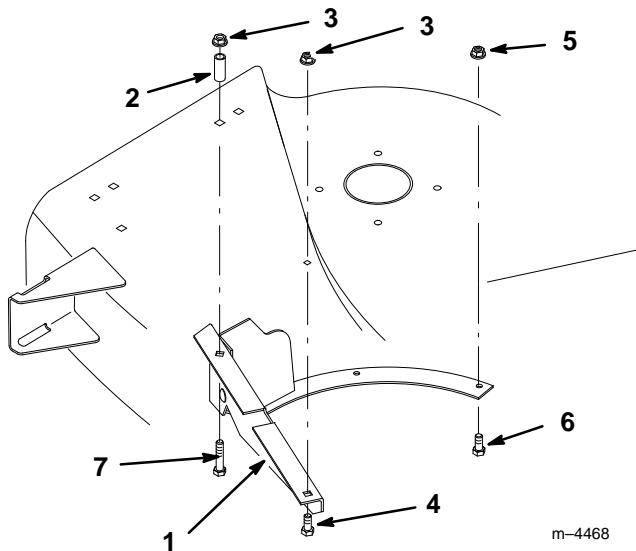

Figure 36
2. Remove the rear grass baffle and grass ring from inside the discharge chute area (Fig. 36).